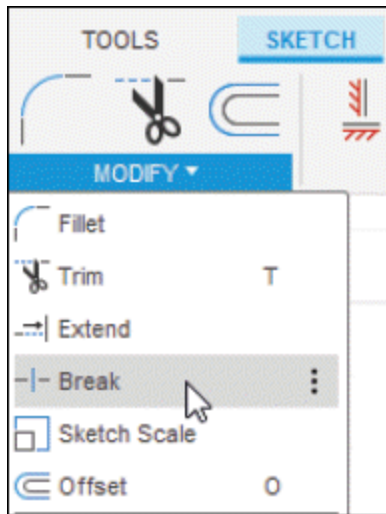

Figure-82. Break tool
- Click on **Break** tool of **MODIFY** drop-down from **Toolbar**; refer to Figure-82.